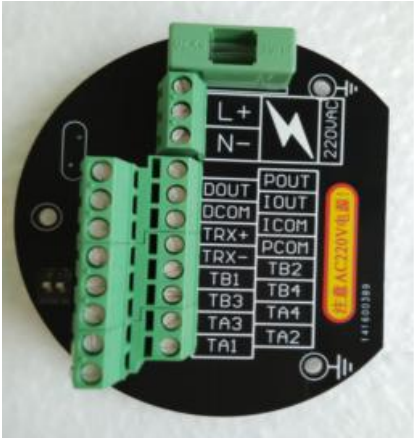

Fig.24
**Note:** Switch A in Figure 24 is used to select between the Pt1000 and Pt100 RTD sensors. The factory default setting is Pt1000, with both Switch 1 and Switch 2 set to OFF. If a Pt100 RTD is used, set both Switch 1 and Switch 2 to ON.